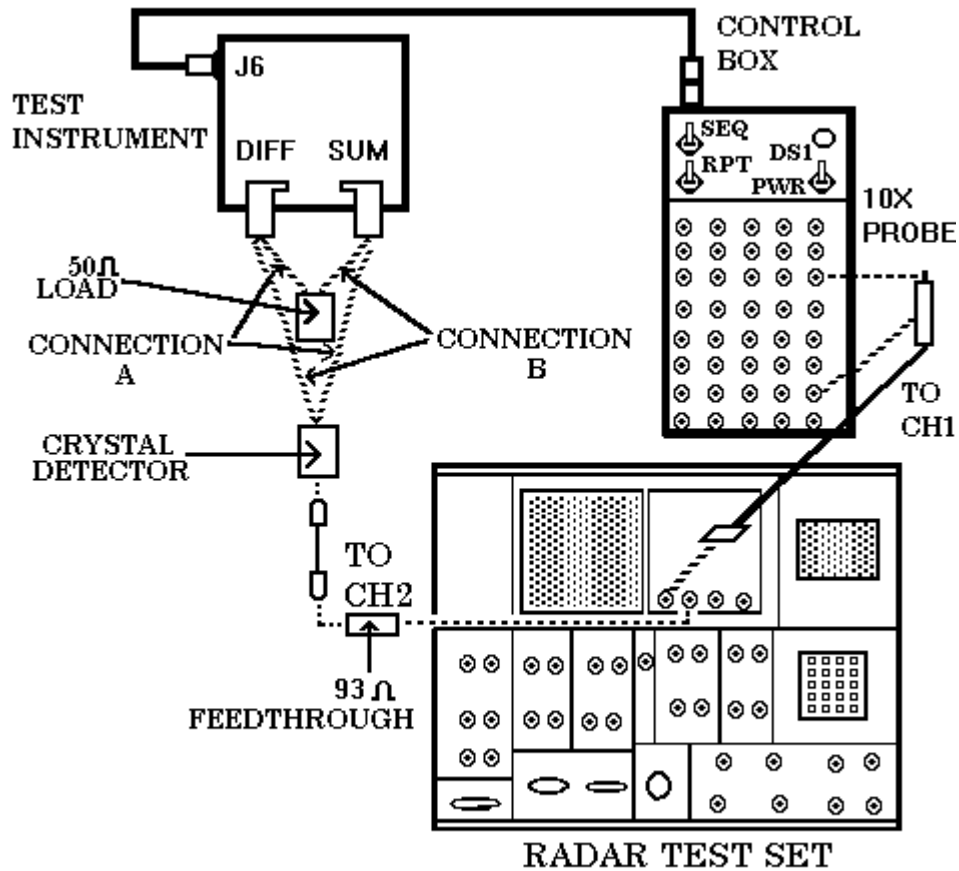

Figure 5. SUM and DIFF pulse measurement - equipment setup.
- s.** Connect equipment as shown in figure 5, CONNECTION A, and allow sufficient time for equipment warm-up.